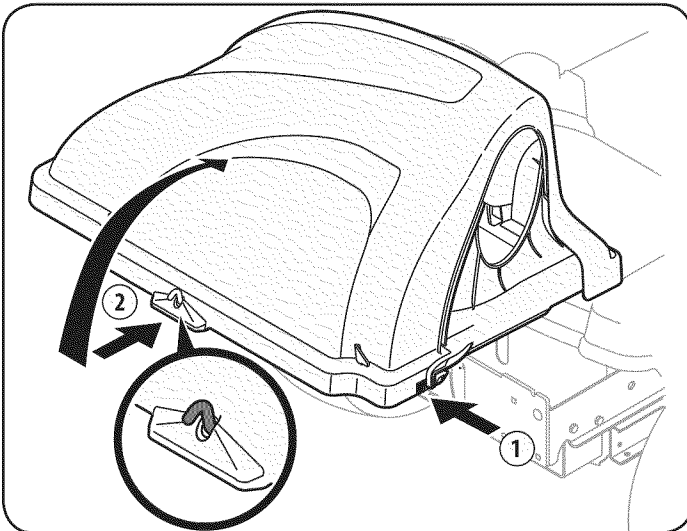

Figure 19
- Open grass catcher cover by pushing in on the rear, right-side tab with your right-hand, as seen in 1 of Fig. 19, and lifting with your left-hand in the rear center, 2.